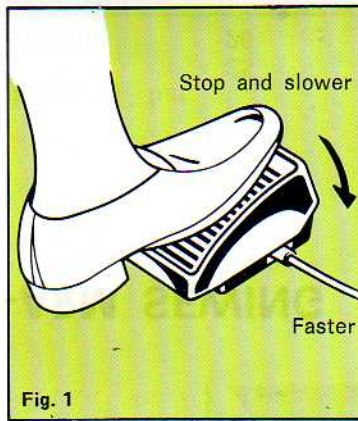

Fig. 1
Easy to use as an automobile accelerator! Seated comfortably? Directly in front of your machine? Place the foot control (Fig. 1) where your foot reaches it easily. Turn on the light and power switch (15). Enter a stitch on the keyboard.